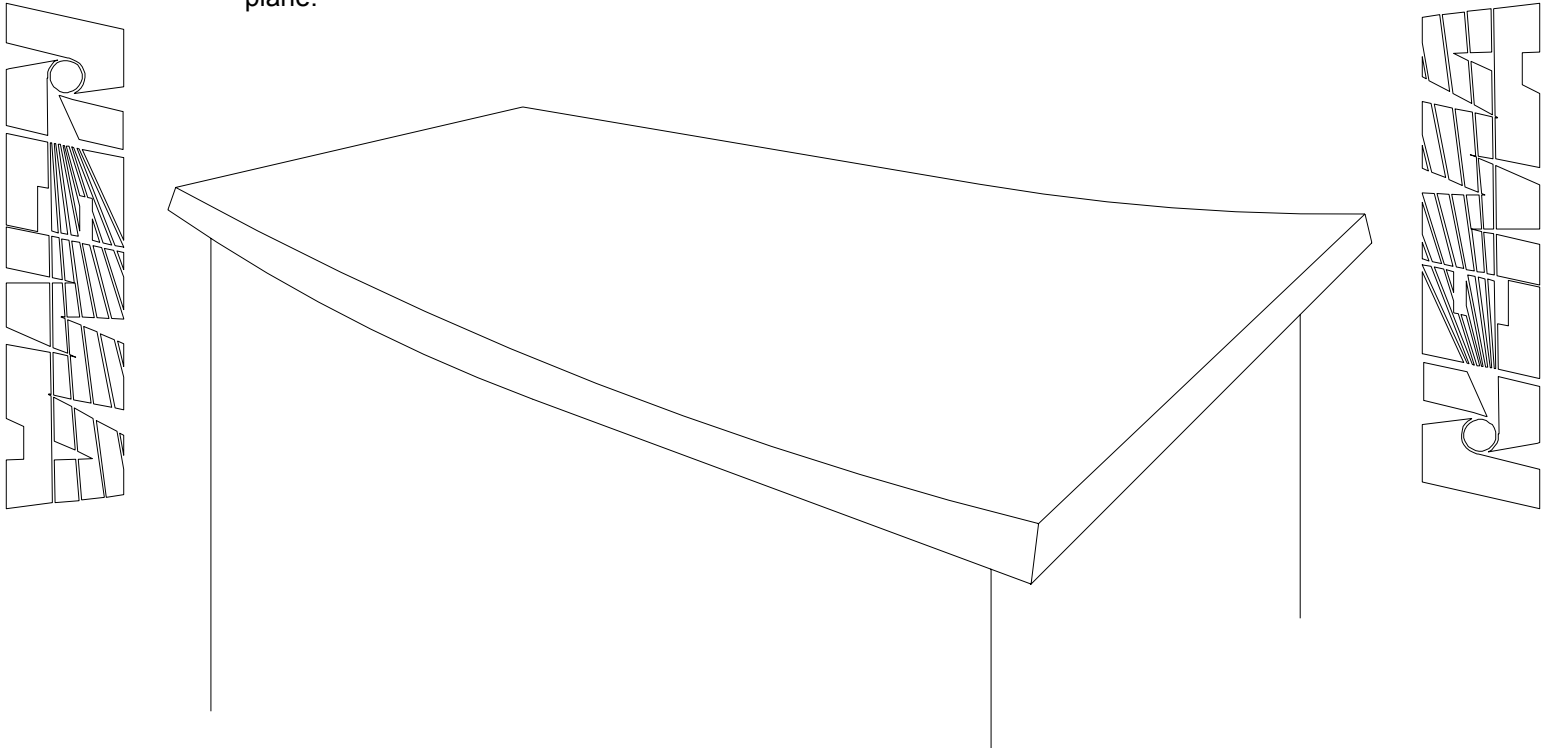

Figure A-12
- f. Panel warpage—Warping of the assembly (see Figure A-12) is generally attributed to the differences in dimensional change between the face and back laminates and the core or substrate material. Different adhesives or application techniques used on the front and back face can also cause panel warpage. When one side of a panel assembly is subjected to different humidity conditions than the other side warpage can result. Warpage can also result during hot pressing operations where the press platens have different temperatures. All panel components should be acclimated to the same environment prior to fabrication. Critical applications requiring a well balanced assembly should be constructed with the same laminate applied to both sides. Less critical applications may only require a cabinet liner or backer. Paint, varnish, vinyl film, and other coatings will not balance a panel having laminate on the other side. If the panel is secured to a framework, the framework should be designed and constructed to hold the assembly in a flat plane.